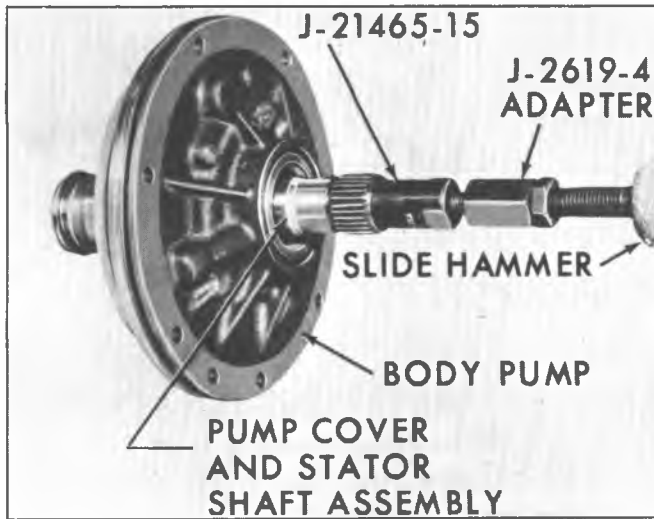
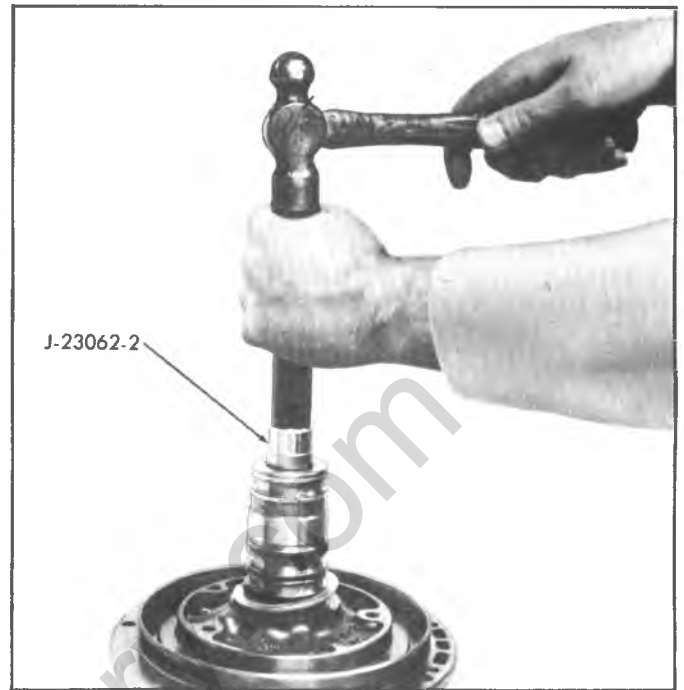
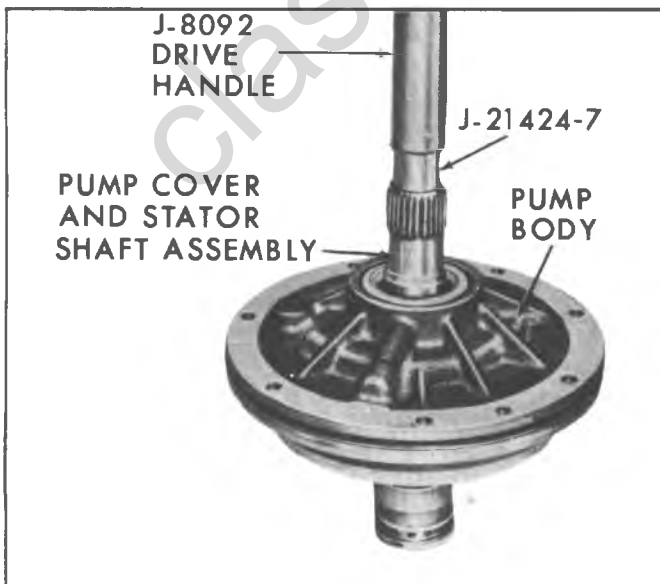
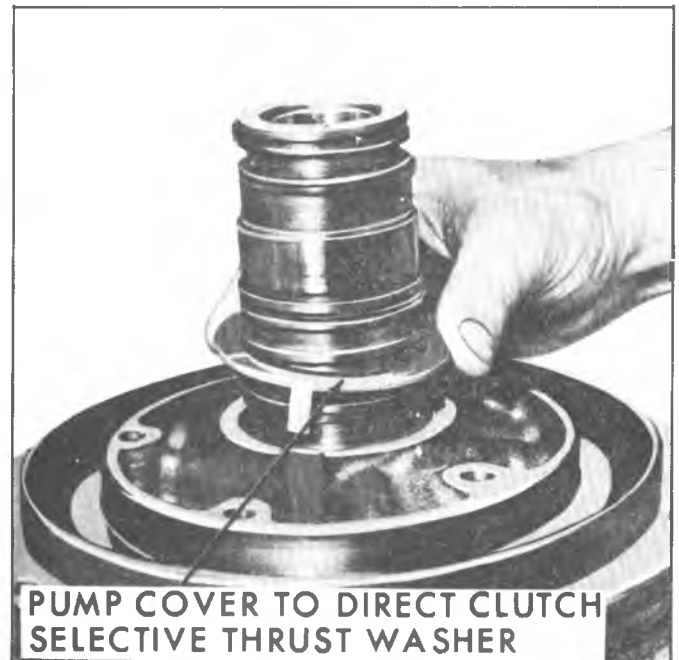

Fig. 90N--Removing Stator Shaft Front Bushing
Fig. 92N--Installing Inner and Outer Stator Shaft Bushing
Fig. 91N--Installing Stator Shaft Front Bushing
Fig. 98N--Pump Cover to Direct Clutch Selective Thrust Washer
With stator shaft properly supported, remove front bushing using tool J-21465-16 and slide hammer with adapter J-2619-01 (fig. 90N). Using tool J-21242-7 and drive handle J-8092, install bushing to .250" from face (fig. 91N).
With stator shaft properly supported, remove front bushing (fig. 92N). Place tool J-21424-7 and drive handle J-8092 with extension J-21465-13 through front of stator shaft and drive out two (2) rear bushings. Using tool J-23062-2 and extension J-21465-13, install inner bushing to approximately 1-5/32" below front face and outer bushing 3/32" below front face (fig. 98N). Install new front bushing (fig. 91N).
- a. Install selective fit thrust washer, (fig. 98N) oil pump gasket and using guide studs from J-3387 set install oil pump. Install two pump to case bolts.